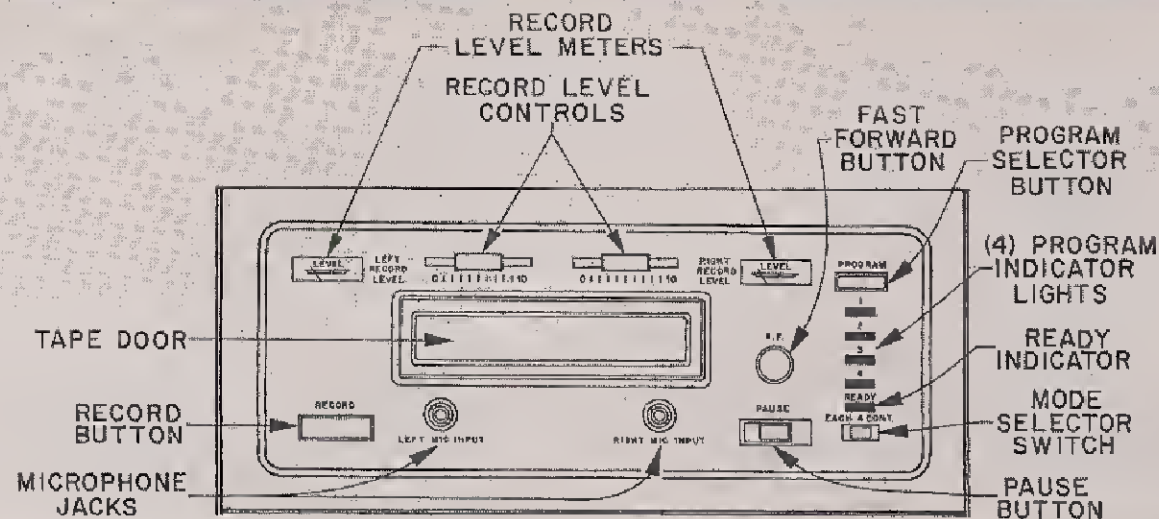

Figure 13
TAPE RECORDER CONTROLS (Fig. 13)
3. Insert the Microphone Plug into either of the MIC INPUT Jacks (See Fig. 13) and follow instructions 3 thru 9 from Section C.